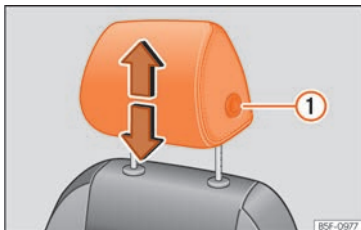
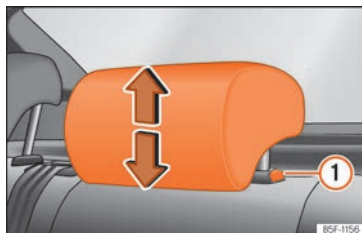

Fig. 108 Front seat: headrest adjustment.
Fig. 109 Rear headrest: headrest adjustment.
- Grab the sides of the headrests with both hands and push upwards to the desired position. To lower it, repeat the same action, pressing the ① » Fig. 108 » Fig. 109 button on the side.